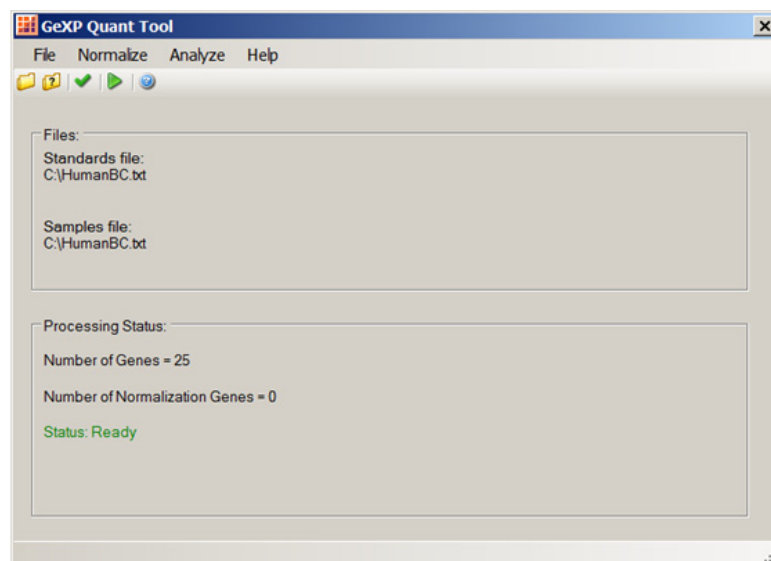

Figure 7.39 Standards and Samples Files are Imported
3. Once imported, the Standard and Sample files are listed in the “Files” area as shown in Figure 7.39.
4. In the “Processing Status” area, it shows there are a total of twenty-five genes present in this data file. The Number of Normalization Genes is labeled zero since no normalization gene is selected at this time. Refer to Figure 7.39.